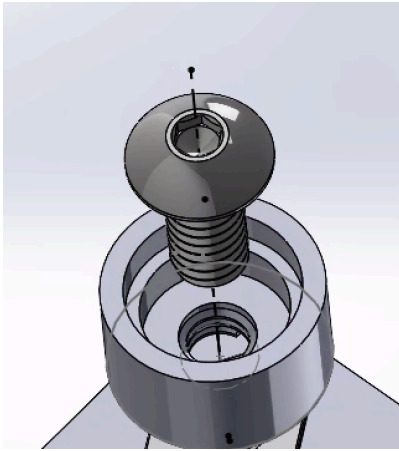

Figure 1
- First, screw in the 8-32 screw to the threads in the print. Since the screw is not intended to be taken off, it can be forced into threads if it seems as not fitting (Figure 1). It is recommended to use adhesive/glue to secure it even more